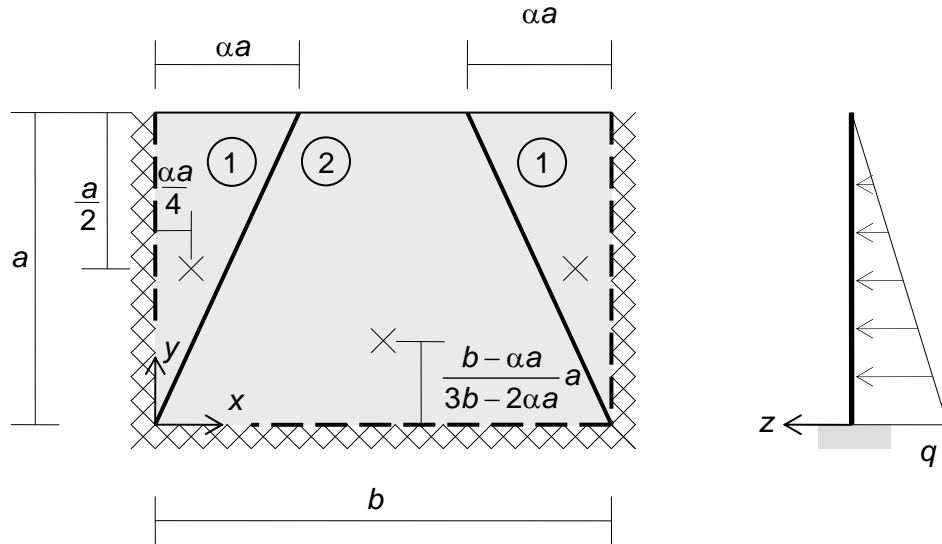

Figure 4. Hydrostatically loaded plate
A plate is fixed at three edges and free at one edge (Fig. 4). The plate carries a hydrostatically distributed load $q\left(1 - \frac{y}{a}\right)$ [kN/m²]. The plate is homogeneous. The reinforcement directions are x and y . $m_{px} = 3m_p$ and $m'_{px} = m'_{py} = m_{py} = m_p$.
- b Consider the yield line pattern of Figure 4. Determine an upper bound for q expressed in m_p and a , b and α . The crosses in Figure 4 show the positions of the resulting forces on the plate parts. The values of the resulting forces on the plate parts are $F_1 = \frac{1}{6}\alpha qa^2$ and $F_2 = \frac{1}{6}(3b - 2\alpha a)qa$. (1.5 points)